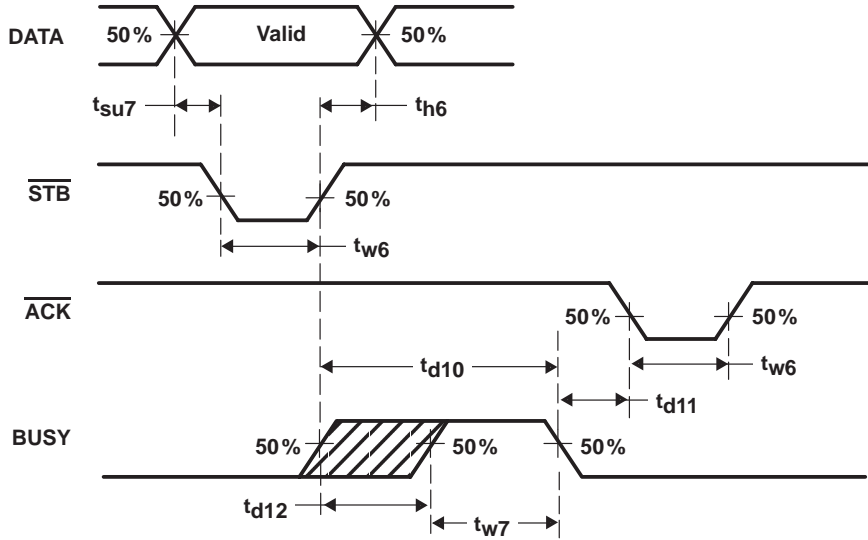

Figure 15. Parallel Port Timing Waveforms
**parallel port timing requirements over recommended ranges of supply voltage and operating free-air temperature (see Figure 15)**